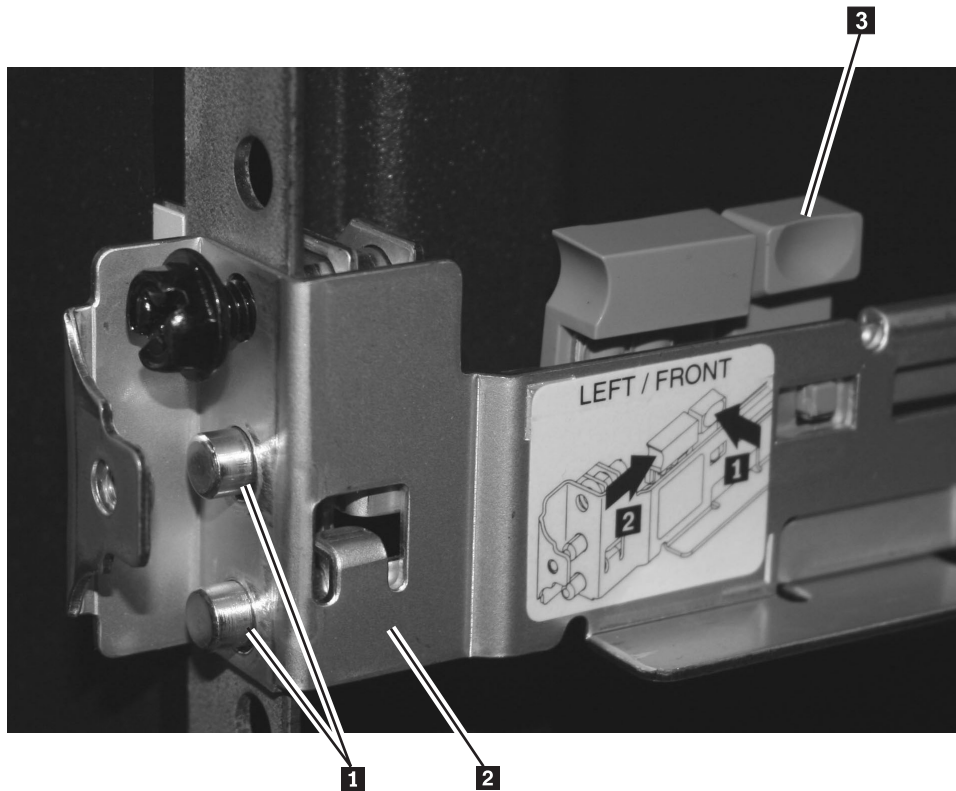

Figure 58. Aligning the pins on the left front support rail for the SAN Volume Controller 2145-8A4 with the front mounting flange
- a. Start from the front and align the pins (**1** in Figure 58 on page 63) on the front rail-locking carrier with the holes on the rack mounting flange **2**.
- b. Release the rail-locking latch by pushing the smaller blue tab **3** away from the rail. The pins spring into the closed position. Ensure that the pins go fully through the holes in the mounting flange, as shown in Figure 58 on page 63.